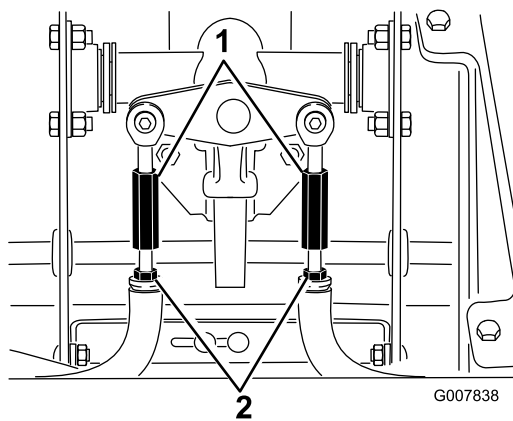

Figure 55
- D. Loosen the jam nuts on the traction rods, under the control panel (Figure 55).